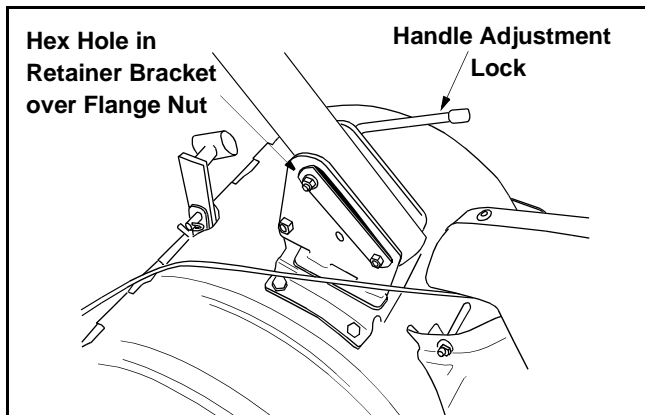

Figure 4
- Place the hex opening of the hex nut retainer bracket over the flange nut securing the handle adjustment lock and install the lock nut on the lower shoulder bolt. See Figure 4.